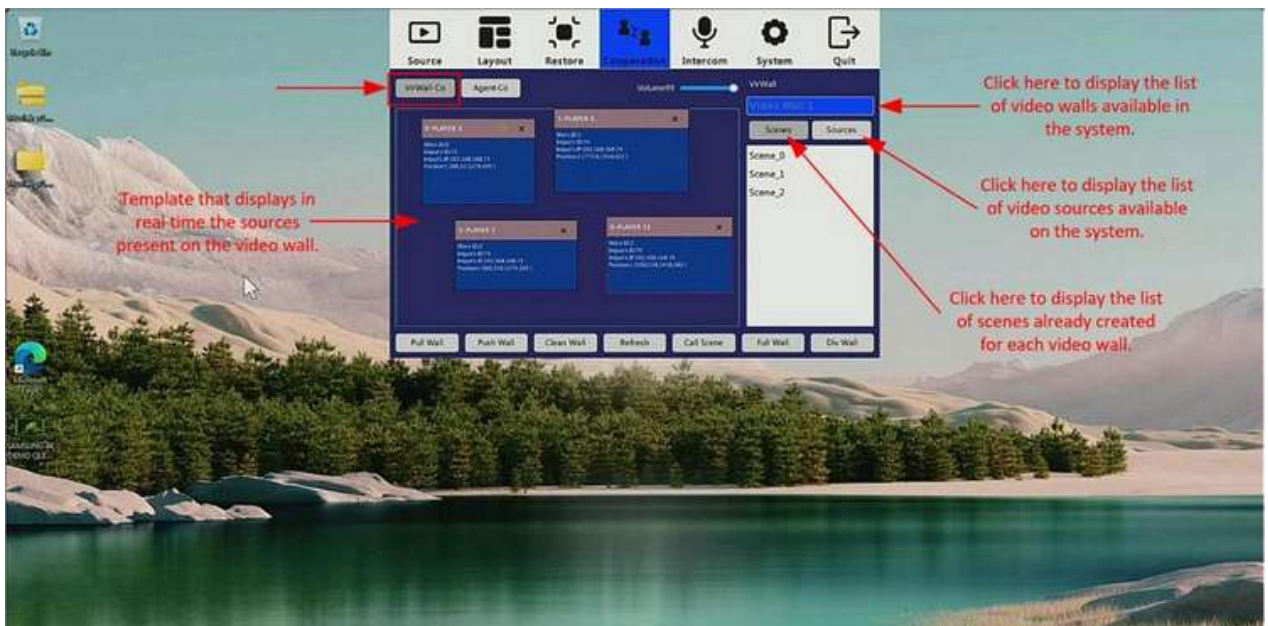

Figure 68
• **VirWall-Co:** Clicking on this option will display the different options the User has to manage the video walls, whether it be sending content to the video wall, taking content from the video wall, calling an already created scene, or sending a video source to the video wall from the sources available in the system. Figure 68 and 69